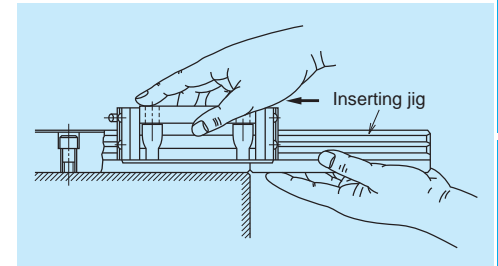

Fig. 9.27
(6) Handling Preloaded Assembly
- If it is unavoidable to remove slides from the rail, make certain to use a provisional rail (a jig used to insert a slide to the rail) as shown in Fig. 9.27.